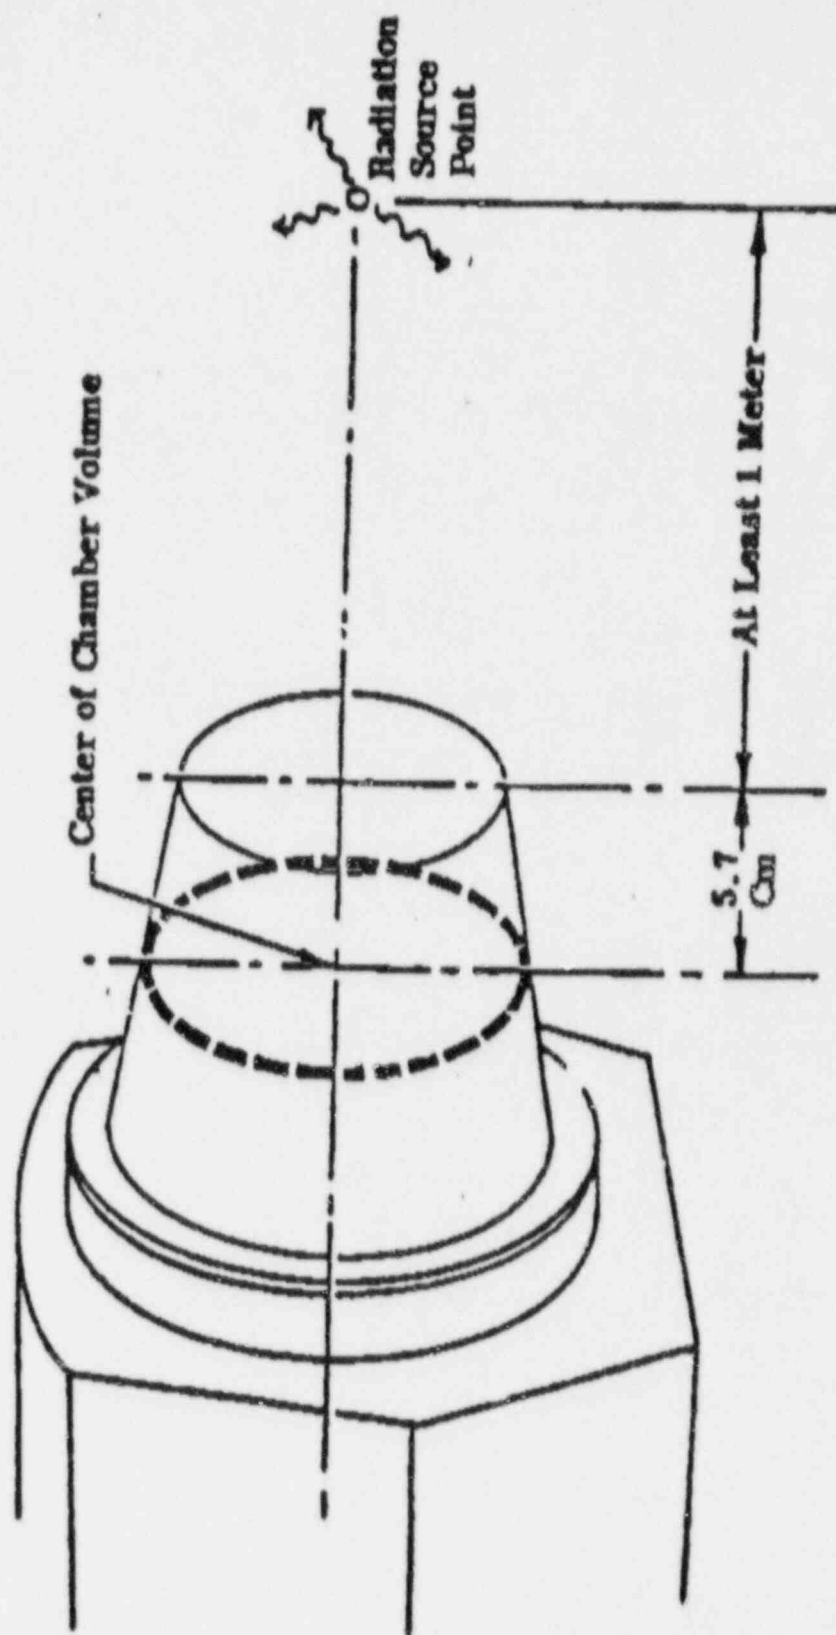

FIGURE 6. Source Distance
5.1.4 Source Distance - If a point source or a collimated beam is used, the 470A chamber must be far enough from the source so the entire ion chamber is uniformly exposed. In practice this means any point source should be at least 1 meter from the ion chamber. The center of volume of the chamber is 3.7 cm from the end. See Figure 6.